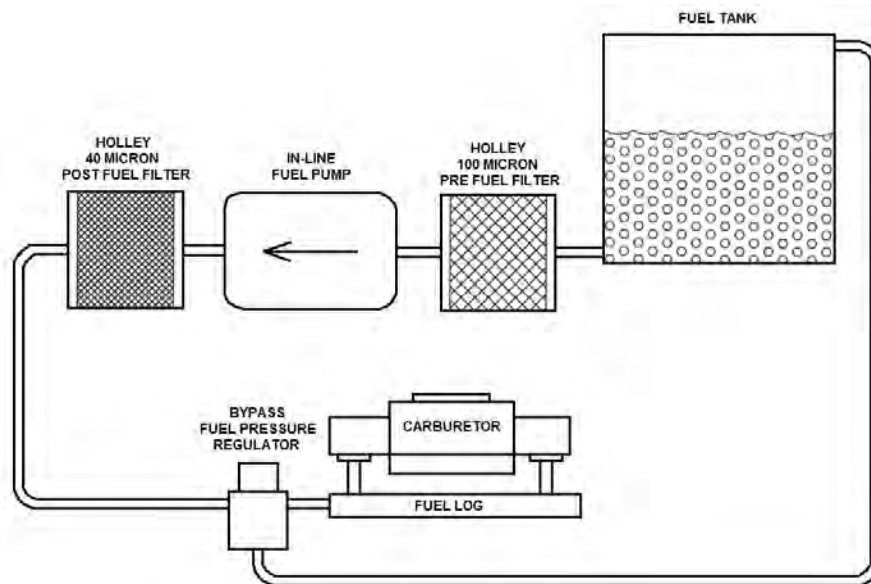

Figure 1a (Carb applications only)
5. Connect the fuel supply line from the tank to the pre-filter and then to the inlet port of the pump. Connect the main fuel feed line to the outlet port of the pump, then to the post filter. See **Figures 1a and 1b**.
NOTE: A return style fuel pressure regulator is required for use with the Holley DOMINATOR fuel pumps. Please refer to the chart on page one for recommended fuel pressure regulators. Refer to figures 1a, and 1b, for recommended plumbing scenarios. .